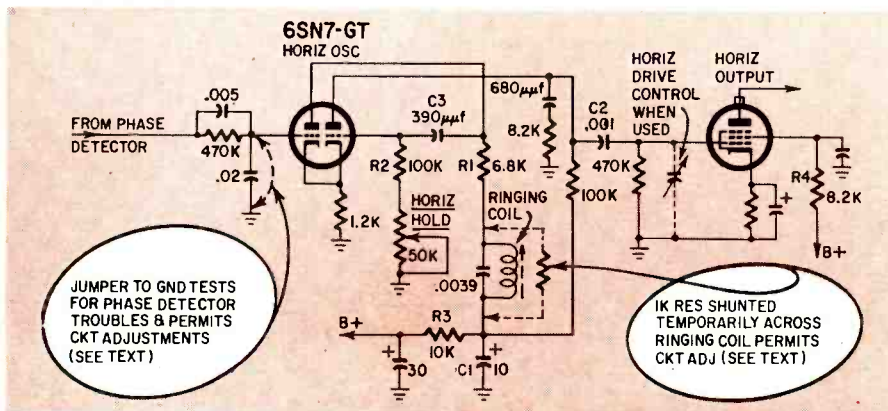

Fig. 2—Typical horizontal multivibrator with ringing coil for stability.
The size of resistor R1 in Fig. 2 plays an important role in just how "tight" the ringing coil makes the circuit. If the resistor is smaller, the ringing coil has more stabilizing effect and thus the oscillator becomes less responsive to sync control. It is our opinion that the correct size for this resistor is the one that will let the oscillator just work with the ringing coil shorted out. This is usually about 6,800 ohms.
Fortunately, it is usually simple to tell whether the trouble is in the oscillator or the phase detector stage by grounding the control grid with a jumper (Fig. 2). This completely eliminates the phase detector (and sync) as a source of trouble.
8. In sets without a resistance hold control, juggle values of either R2, C3 or both (Fig. 2) until the picture floats by with sync shorted and ringing coil shunted. A resistance-capacitance substitution box is ideal for this.
The most common cause of drift other than misadjustment is electrolytic by-passes. C1 in Fig. 2 may partially open, causing the oscillator to become erratic or slow to stabilize. Many circuits do not use the 10,000-ohm decoupling resistor (R3) and rely on the B-plus electrolytic alone to bypass horizontal currents. It is very possible for a B-plus electrolytic to cause horizontal instability without producing any other apparent symptom.